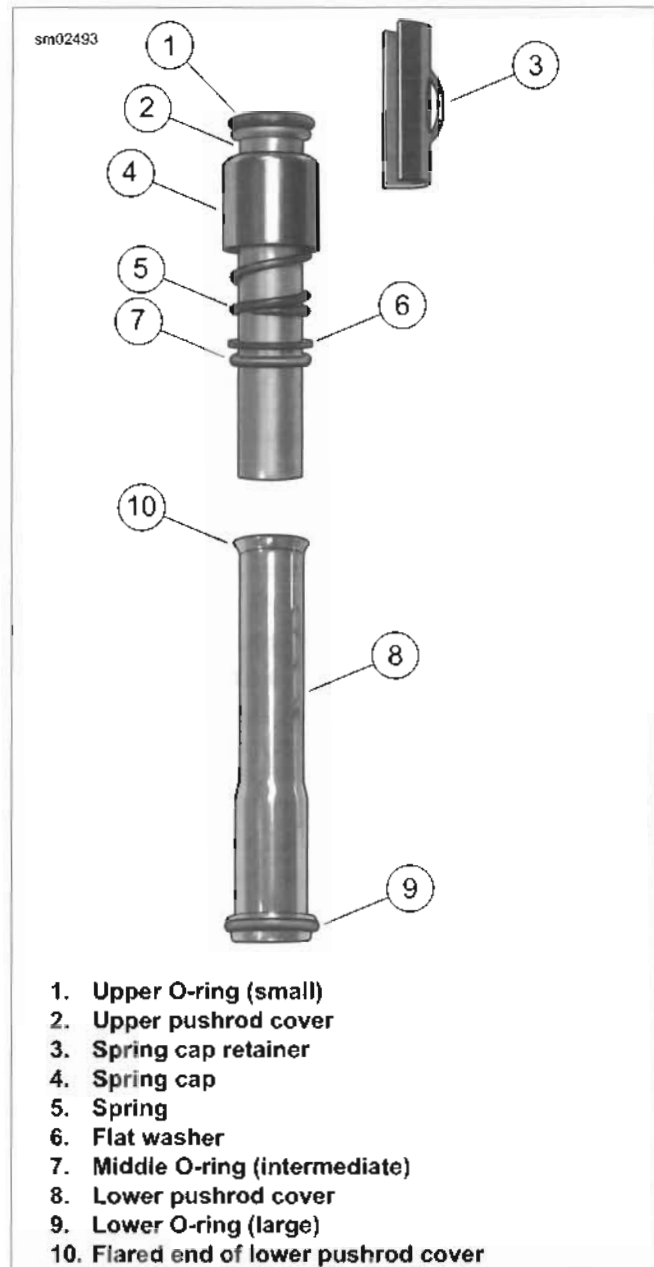

Figure 3-40. Assembled Pushrod Cover
1. See Figure 3-40. Apply a very thin film of clean engine oil to **new** O-rings (1, 7 and 9) before installation.
2. Install small O-ring (1) on seat at the top of the upper pushrod cover (2).
3. Slide the spring cap (4), spring (5), flat washer (6) and intermediate size O-ring (7) onto the body of the upper pushrod cover. Move parts up body until spring cap contacts upper O-ring seat.
4. Fit the straight end of the upper pushrod cover into the flared end of the lower pushrod cover (8).
5. Install large O-ring (9) on seat at bottom of lower pushrod cover.